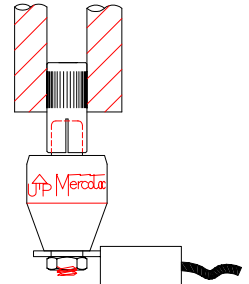

Fig 4 110 Mounting
3. The brushless slip ring mounting is reversible (except model 110), so they need not be installed upside down <Fig 4>.